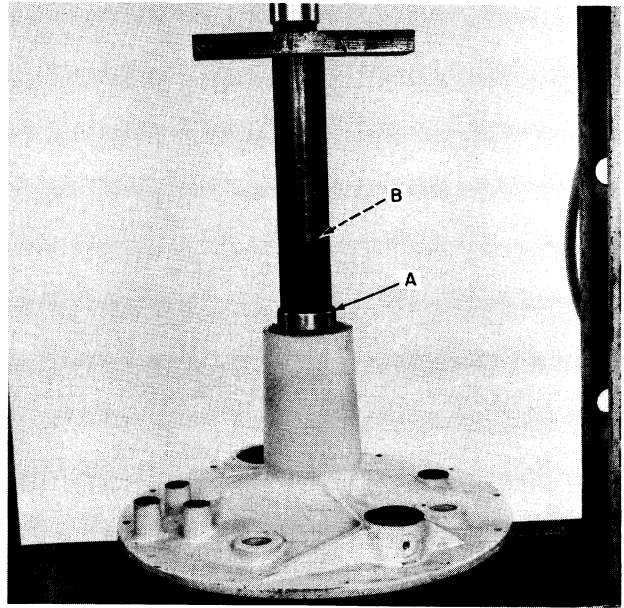

FIGURE 5A-24
7. Install snap ring, A, Figure 5A-23. Be sure the snap ring is completely seated in the groove in housing, B.